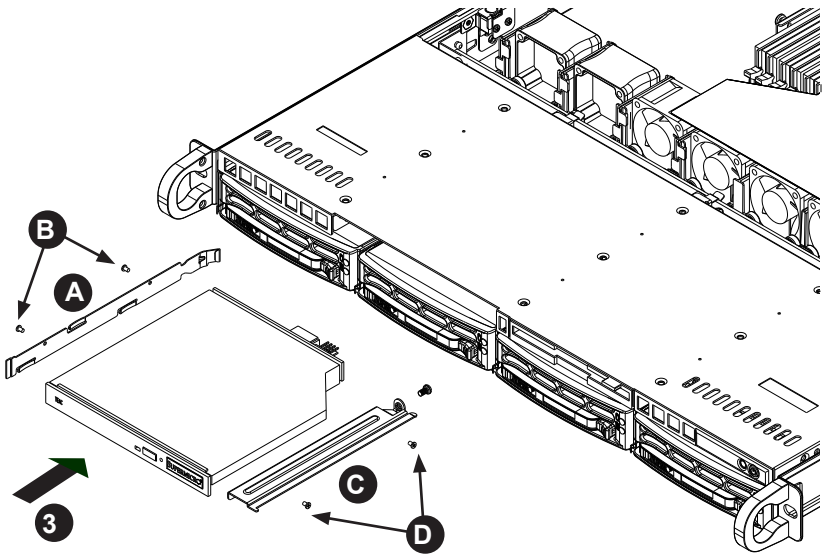

Figure 6-5. Installing a DVD-ROM Drive
2. Swing the colored handle fully out and use it to pull the unit straight out (see Figure 6-5).